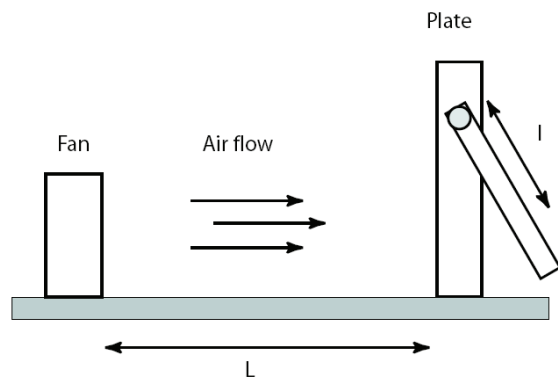

Figure 1: Illustration of the fan and plate process, with definition of L and l .
- The dynamics of the plate is modelled with torque balance. The inertia of the plate is J . There is no friction in the link, but the damping due to air resistance is proportional the the rotational speed of the plate. The plate can be viewed as a point mass at distance l_g from the link. The air affects the plate an an area A , centered at distance l from the point of rotation of the plate (see Figure 1).